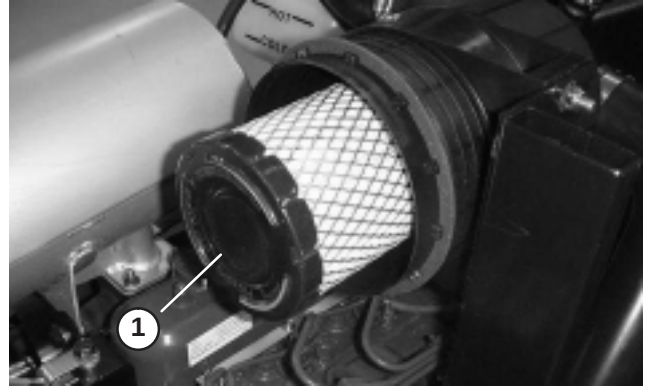

Figure 39
2. Gently slide filter (Fig. 39) out of air cleaner body to reduce the amount of dust dislodged. Avoid knocking filter against air cleaner body.